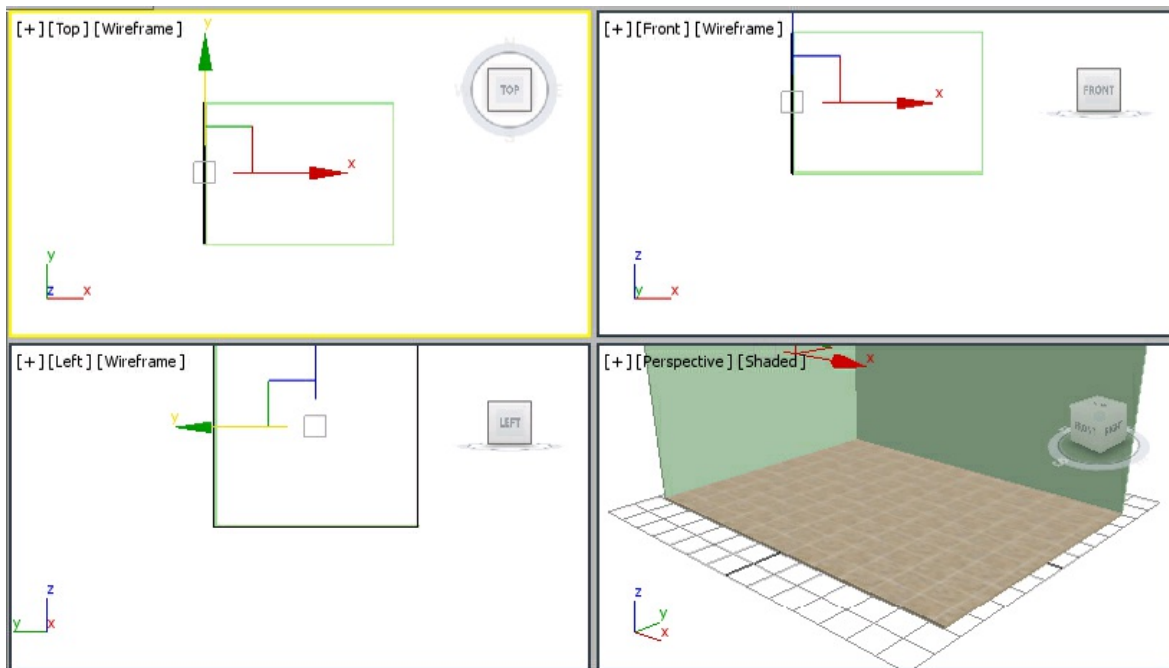

Figure P1-3 Setting the Perspective viewport
6. Enter **wall01** in the **Name and Color** rollout. Figure P1-3 shows *wall01* in the viewport. Next, choose the **2D Snap** tool again to deactivate it.